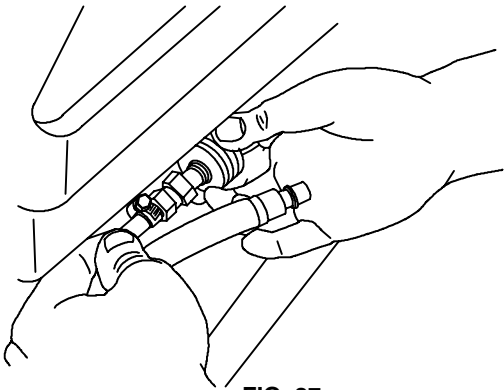

FIG. 37
4. If machine is equipped with Off-Aisle Wand Pump option, connect solution hose to quick disconnect coupler located behind left wheel (Figure 37).